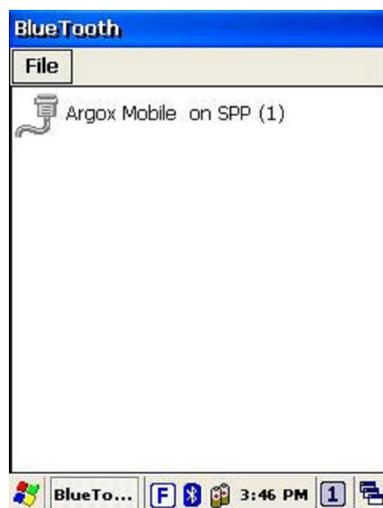

Figure 3-25 Bluetooth Serial Port
9. After press **Connect** button, it will appear a connection with SPP mode like Figure 3-25.